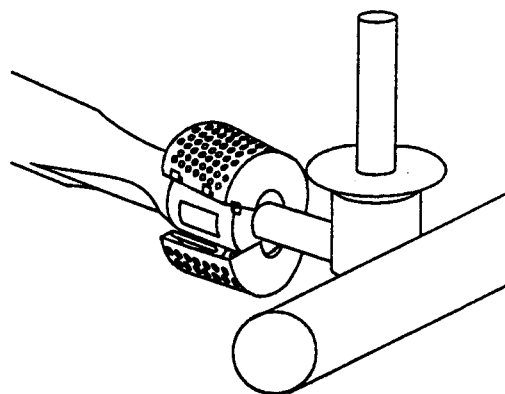

Figure 10
- Unlatch the Spider Stopper Guards and remove. Figure 10.